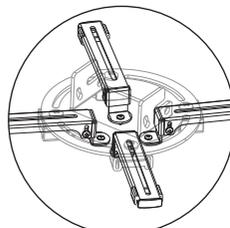

figure 15
3. Connect the installation arms to the projector conversely if the distance of installation holes is less than 120mm. Connect the installation arms (4-3) to the installation base (4-6) via sliding installation button (4-5) as figure 15.